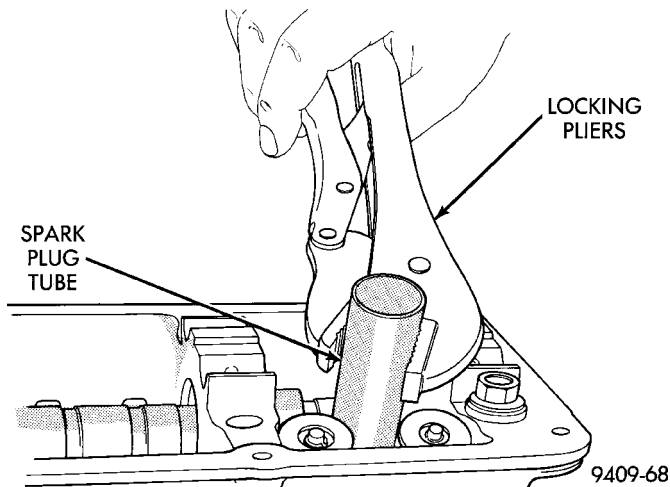

Fig. 21 Servicing Spark Plug Tubes
(1) Remove valve cover. Refer to procedure outlined in this section.
(2) Using locking pliers remove the tube from the cylinder head (Fig. 21). Discard old tube.